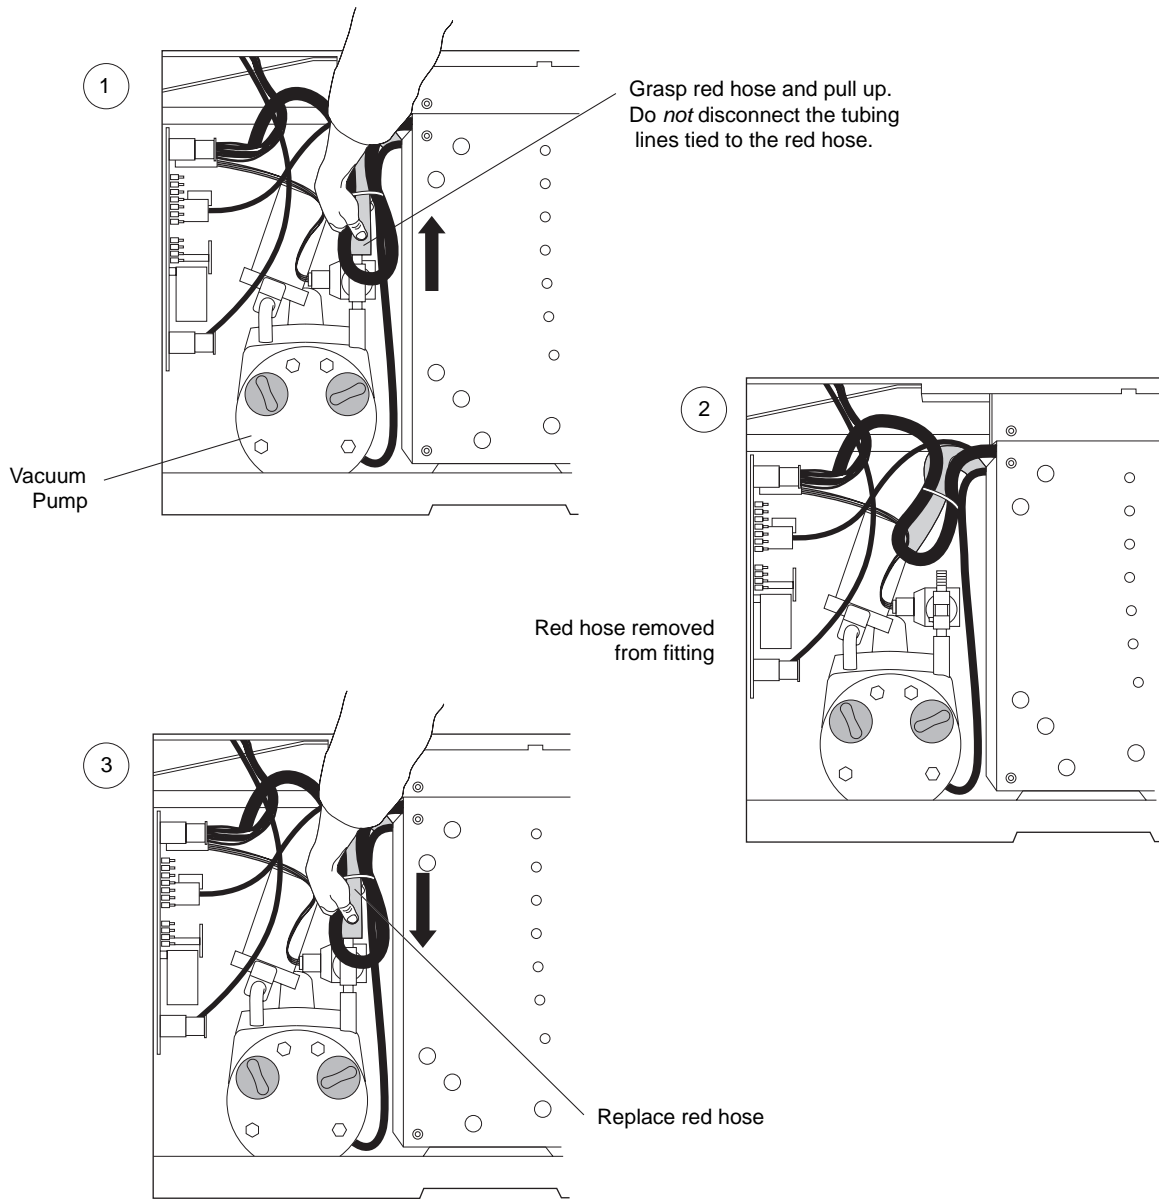

Figure 4-3. Venting the Chamber Vacuum
7. To vent the chamber vacuum, grasp the red rubber hose and pull it up until it comes off of the pump fitting (see Figure 4-3). Use a back-and-forth motion as you pull; this takes quite a bit of force.